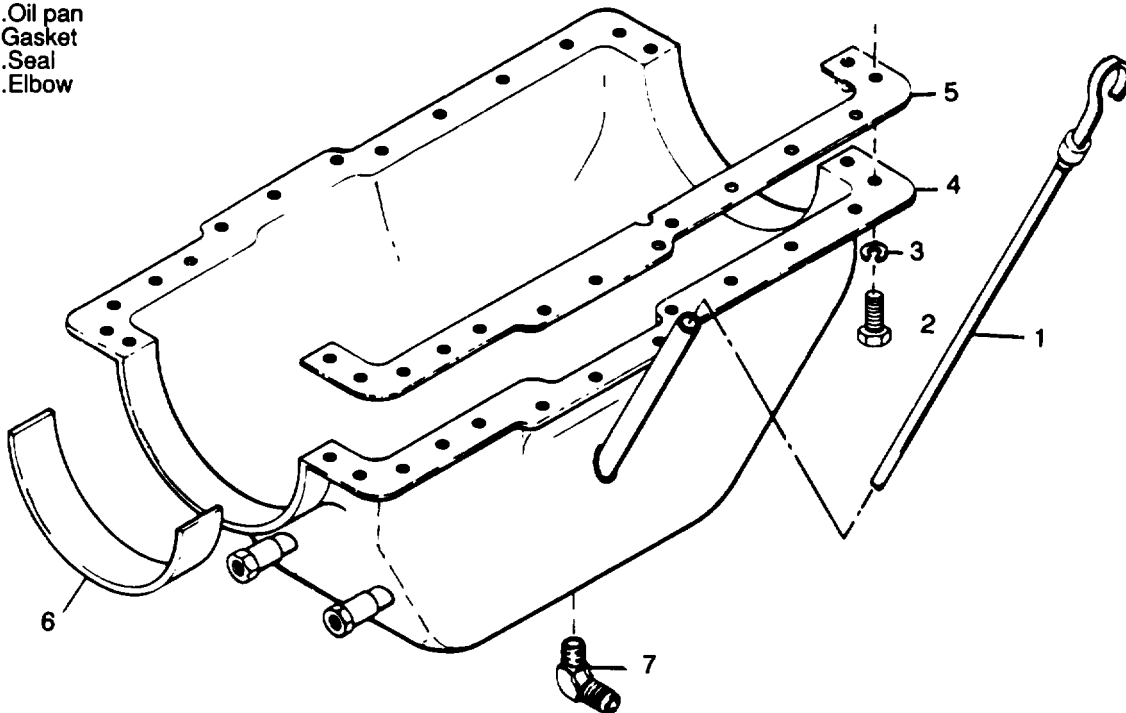

Figure 3-30. Oil Pan Assembly
- (1) If generator set has winterization kits installed, refer to Operator and Unit Maintenance Manual and remove kits.
- (2) Remove oil level gauge (1, figure 3-30).
- (3) Remove elbow (7) from oil pan.
- (4) Remove screws (2) and lockwashers (3) to lower oil pan (4) and remove gaskets (5), and seals (6). Discard seals and gaskets. Refer to paragraph 3-38 and remove oil pump assembly. Remove oil pan.
- (1) Refer to paragraph 3-38 and install oil pump assembly. Install new seals (6, figure 3-30) new gaskets (5), oil pan (4), lockwashers (3) and screws (2).
- (2) Install elbow (7) onto oil pan.
- (3) Install oil level gauge (1).
- (4) If winterization kits were removed, refer to Operator and Unit Maintenance Manual for installation procedures.